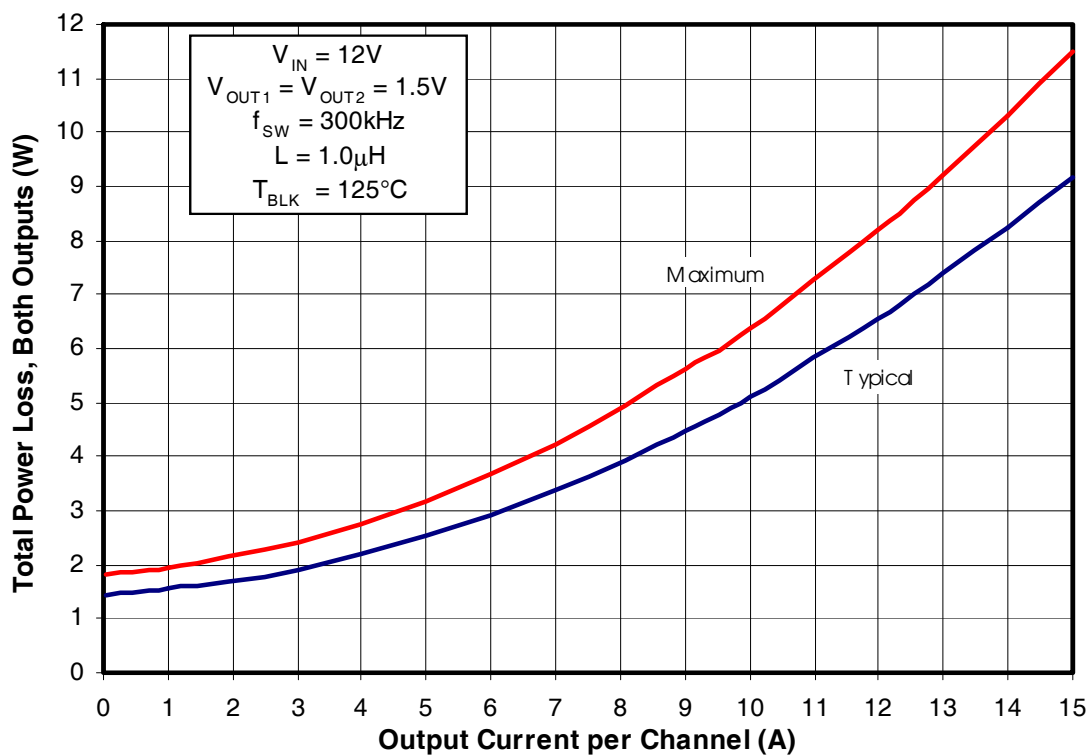
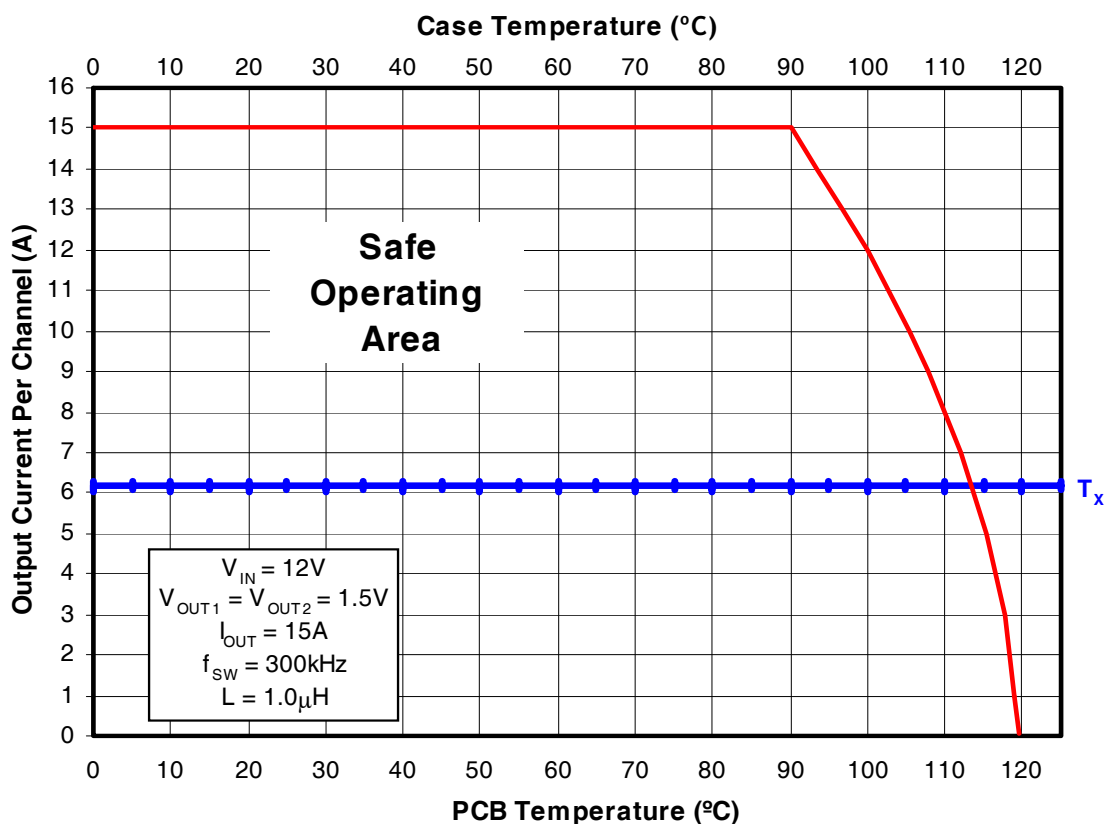
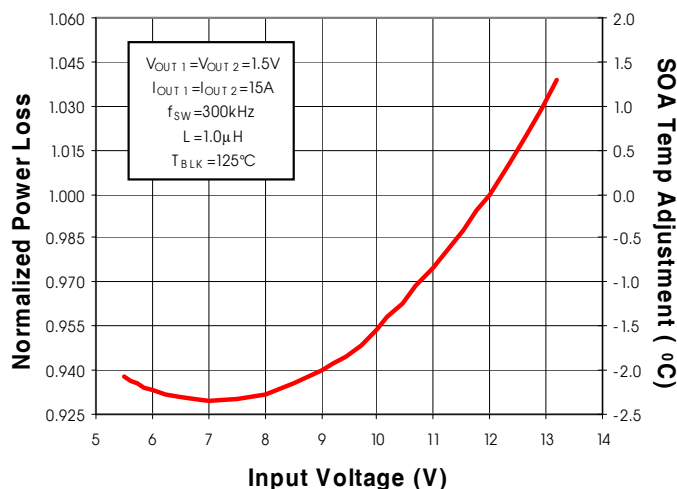

Fig. 2: Power Loss vs. Current
Fig. 3: Safe Operating Area (SOA) vs. T_{PCB} & T_{CASE}
Fig. 4: Normalized Power Loss vs. V_{IN}
To make adjustments to the power loss curves in Fig. 2, multiply the normalized value obtained from the curves in Figs. 4, 5, 6 or 7 by the value indicated on the power loss curve in Fig. 2. Remember that the power loss in Fig. 2. is the power loss for 2 outputs operating with the same output voltage. If differing output voltages are used the initial power loss for each channel needs to be divided by 2. Then if multiple adjustments are required, multiply all of the normalized values together, then multiply that product by the value indicated on the power loss curve in Fig. 2. The resulting product is the final power loss based on all factors. See example no. 1.
To make adjustments to the SOA curve in Fig. 3, determine your maximum PCB Temp & Case Temp at the maximum operating current of each iP1202. Then, add the correction temperature from the normalized curves in Figs. 4, 5, 6 or 7 to the T_x axis intercept (see procedure no. 2 above) in Fig. 3. When multiple adjustments are required, add all of the temperatures together, then add the sum to the T_x axis intercept in Fig. 3. See example no. 2.
- Output1 (Fig. 2) Maximum power loss = $W 8.25/2 = 4.125W$
(Fig. 4) Normalized power loss for input voltage ≈ 0.93
- Output2 (Fig. 2) Maximum power loss = $6.4W / 2 = 3.2W$
- Output1 (Fig. 4) Normalized SOA Temperature for input voltage $\approx -2.3^{\circ}\text{C}$
- Output2 (Fig. 4) Normalized SOA Temperature for input voltage $\approx -2.3^{\circ}\text{C}$